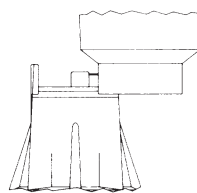

Figure 6
1. (Figure 6) Slide Reflector to bottom of Ballast Housing.